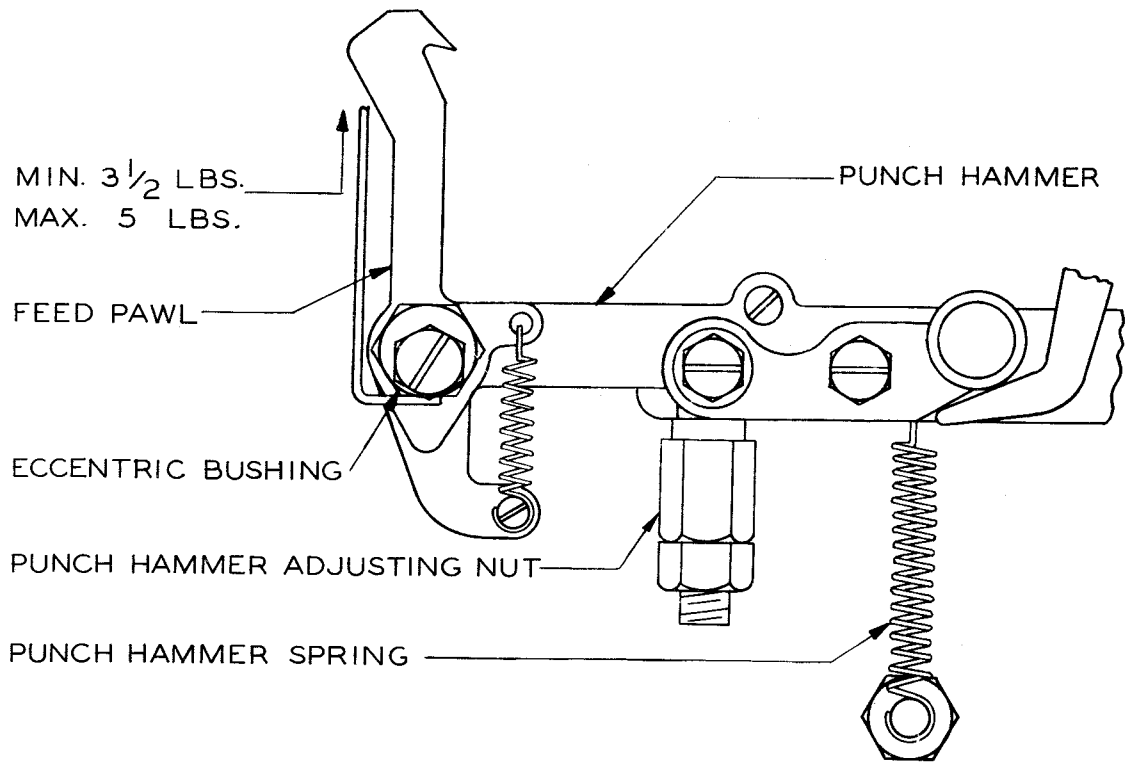

Figure 9
To Adjust: Back off the punch-hammer adjusting nut until the punches fail to perforate tape when LTRS combination is set up and the main shaft is rotated. Advance the adjusting nut slowly until all holes are just punched clean, and then advance the nut an additional 1/4 turn. For identification of parts see Figure 9.
2.27 Punch-hammer Spring: It should require a pull as indicated in Figure 9 to start the punch hammer moving when the main-shaft clutch is disengaged and the lock bail is held away from the transfer levers.